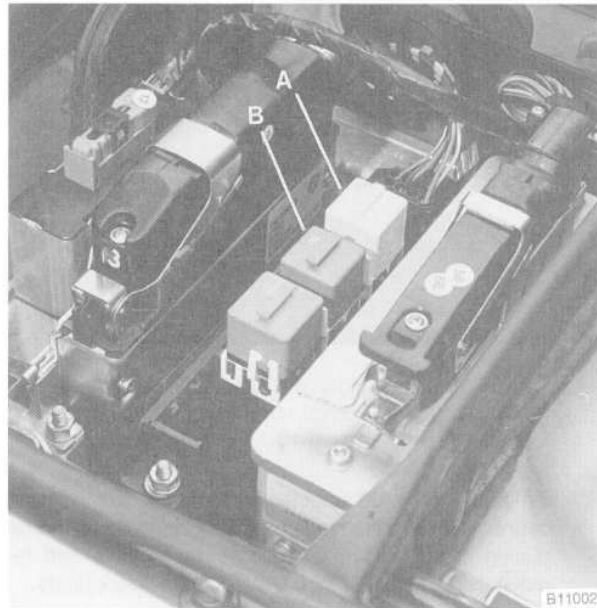

Fig. 4. DME main relay (A) and fuel pump relay (B) in right rear of engine compartment (M50 engine shown, other engines are similar).
1. On all engines except engines with Electronic Throttle Control (EML), remove the DME main relay and the fuel pump relay. See Fig. 4.
2. On engines with EML, remove the fuel pump relay (Fig. 4). On 535i models, disable the ignition by disconnecting the wire at terminal 1 of the ignition coil.